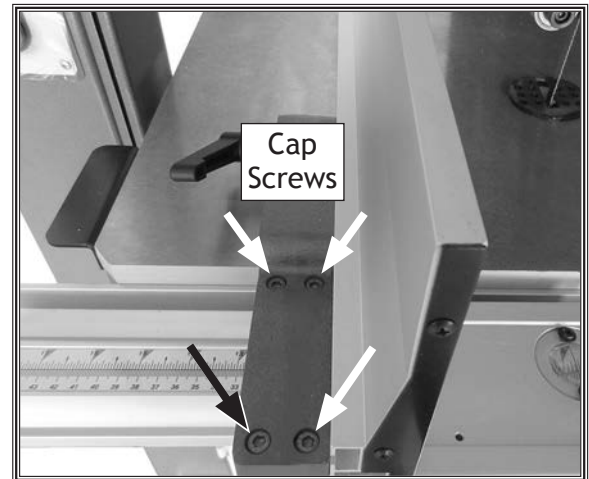

Figure 92. Location of fence adjustment cap screws.
5. Loosen the four fence adjustment cap screws to the left of fence face (see **Figure 92**), skew fence so that it is parallel with wood board, contacting it evenly along its length, then retighten cap screws.